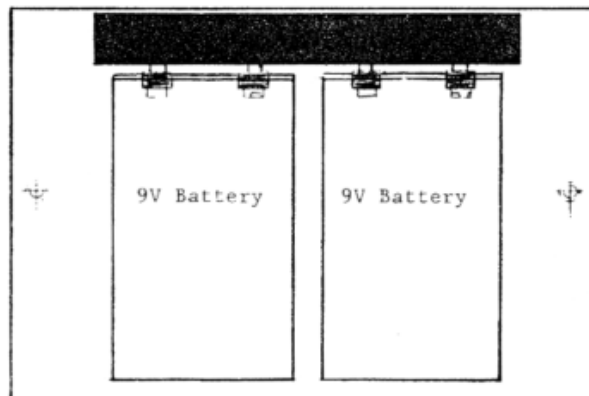

Figure 4. MS0500 Battery Placement
5. Ensure that batteries are properly installed (refer to figure 4). If batteries are not properly installed, reinstall the batteries and recheck battery charge.
4. Remove the two batteries and replace them with new batteries (Figure 4). Ensure that new batteries are in good electrical contact with the battery holder's terminals.